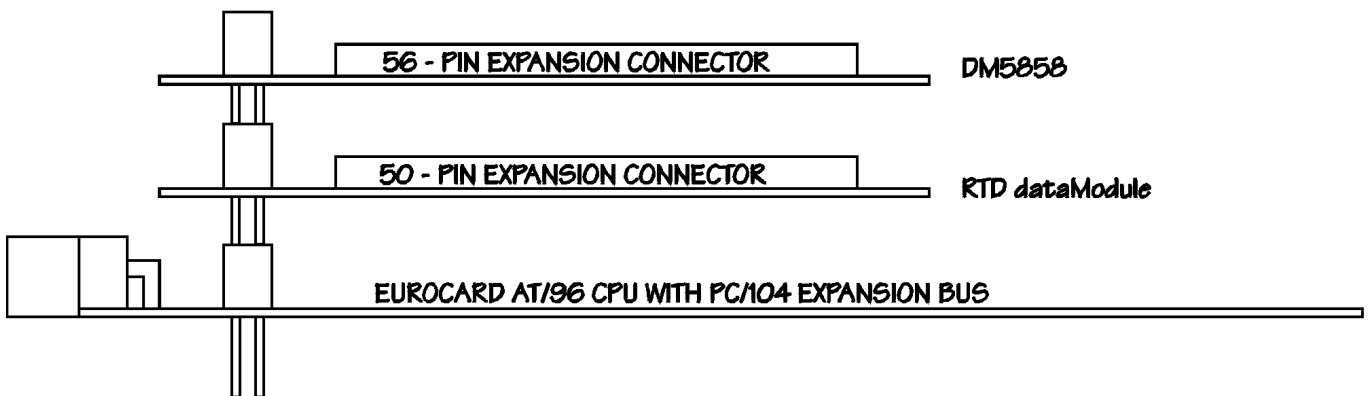

Fig 3-2: 19" Eurocard rack installation with an integrated PC/104 dataModule and EUROCARD cpuModule computer system
- Fig. 3-2: 19" Eurocard rack installation with an integrated PC/104 data Module and EUROCARD cpuModule computer system
The PC/104 system can easily be inserted into a 19" rack installation using the CPU as a "form factor adapter". Assemble your PC/104 data modules on an RTD single board EUROCARD computer and install the system in a 19" enclosure. Multiple DM5858HR boards can be easily connected to this system. See figure 3-2 below.